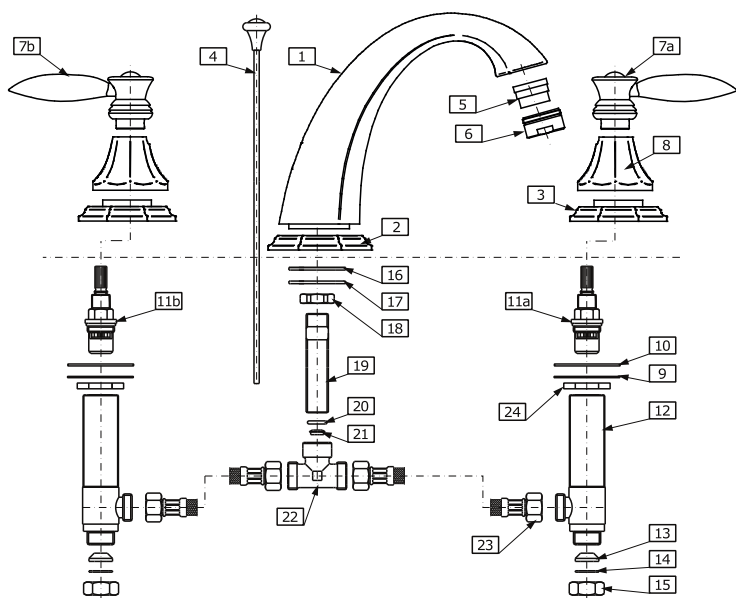
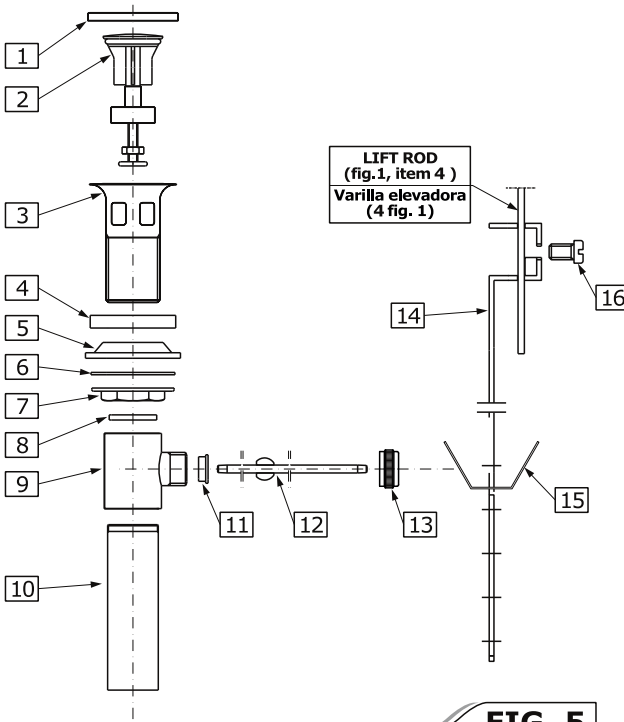

FIG. 1
FIG. 5
- ➔ Spin the bottom valve mounting nuts (2) all the way down the valve and remove the top nut and washers. Insert valve (1) up through the hole in the deck, then drop on the washer (3) and the top mounting nut.
- ➔ Connect hose (23 fig.1) to the outlet connection of the valve. The other end of the hose should be connected to T-connection (22 fig.1) after spout installation.
- Dismantle the drain assembly to the parts shown on **fig. 5**.
- Insert collar gasket (4) and drain collar (3) into drain hole of a lavatory. From underneath the lavatory slip under-bowl gasket (5) into drain collar (3), washer (6) and flanged nut (7).
- Position under-bowl gasket (5) correctly under the lavatory and screw flanged nut (7) firmly but do not overtighten.
- Make sure washer (8) is inside drain body (9) and screw drain body (9) onto drain collar (3) hand tighten only.
- Pay attention to align the drain body (9) so that the horizontal hole of drain body will be in the same plane as a lift rod (4 **fig.1**). Tighten drain body (9) onto drain collar (3) and tighten the flanged nut (7).
- Insert drain plug (2) into drain collar (3).
- Remove clip (15) from ball rod (12); undo a ball rod nut (13) from body, take out sealing washer (11) from a nut and push the nut forward over ball rod (12) from the longer end with the thread facing a ball.
- Insert the sealing washer (11) and the ball rod (12) into a side hole of drain body (9). Make sure that the rod ending goes under the plug screw head.
- Tighten ball rod nut (13) making sure that the ball rod seat (11) and ball rod (12) are properly installed.
- Add Teflon tape to tail tube (10), and mount tail tube to drain body (9).
- Lift the drain plug (2) to an open position, by lowering the horizontal ball rod (12) down.
- Insert lift rod (4 **fig.1**) down through spout (1 **fig.1**) and top of lift rod strap (14). Adjust to proper height and tighten screw (16).
- Choose the position of horizontal ball rod (12) in one of the holes in lift rod strap (14). Insert horizontal ball rod (12) through one arm of spring clip (15) and lift rod strap (14) and then second arm of spring clip (15).
- Try if a drain plug (2) closes the drain by pulling the lift rod. If not, make corrections of position of lift rod strap (14) and horizontal ball rod (12).